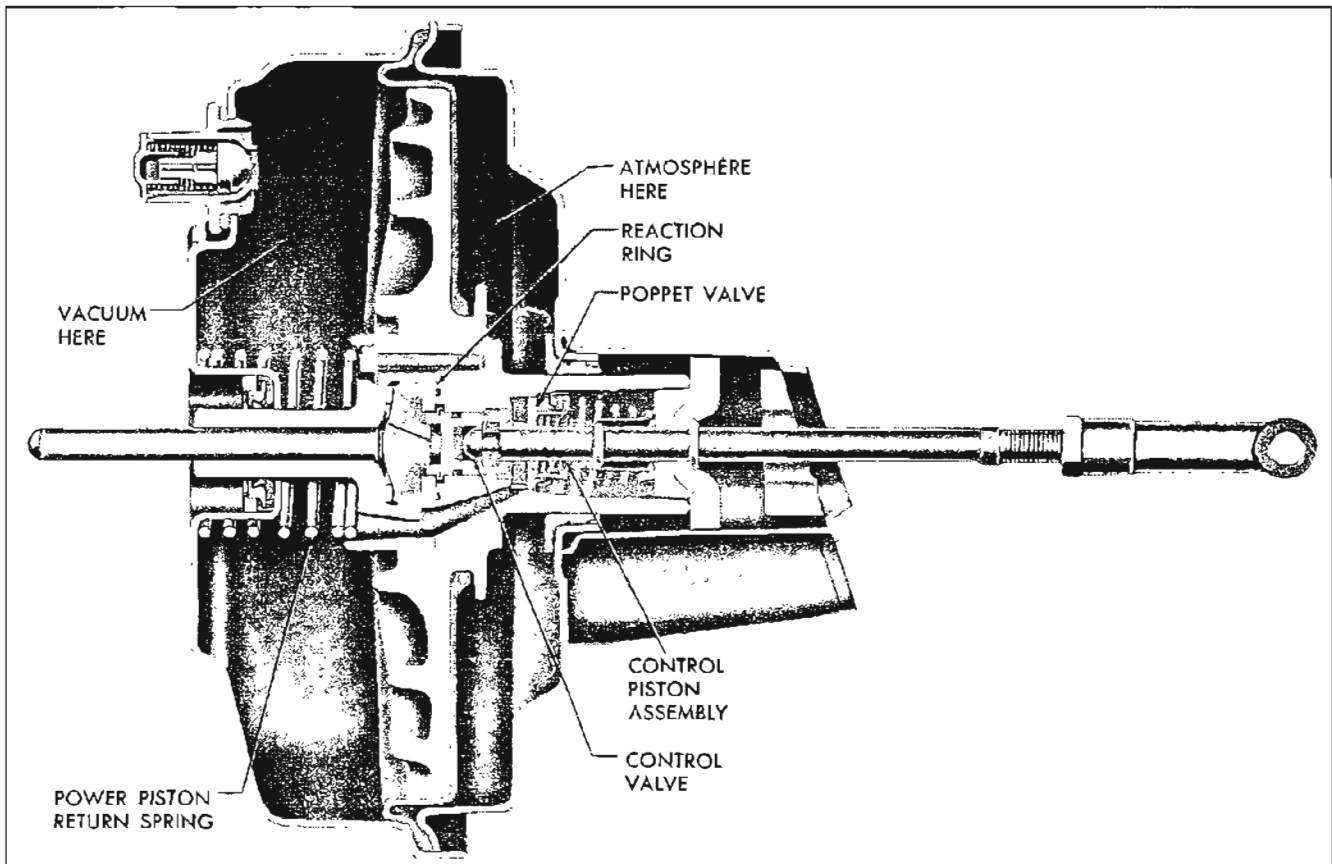

Figure 9-32—Housing Lock in Position
10. Install the housing lock on the long tang of the cover (Figure 9-32). **NOTE:** This lock will not be satisfactory if installed incorrectly. If installed on one of the short tangs, the unit could become unlocked with use.